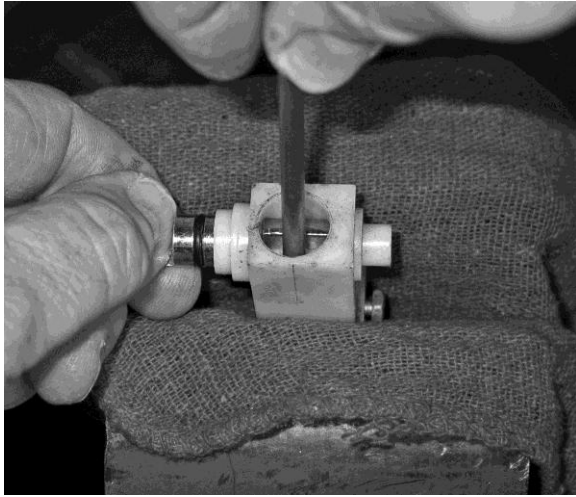

Figure 1
10. Clamp overtravel control (24) in vise with bore positioned at the top (figure 1). Position a small wrench on the smaller flat of the overtravel control shaft (27) where it protrudes from the overtravel control body (25) and rotate the overtravel control shaft (27) until the large flat inside the overtravel control body (25) is vertical. This will compress the overtravel piston and spring (30 and 32). Using a medium screwdriver (ex: Torx T20), force the overtravel piston (32) down just enough to allow the overtravel control shaft (27) to be moved part way out of the overtravel control body (25). Reposition the screwdriver on the overtravel piston (32) past the end of the overtravel control shaft (27) and force the piston (32) down just enough to permit the overtravel control shaft (27) to be fully removed. Release the overtravel piston (32) carefully. Remove the overtravel control body (25) from vise.
11. Remove overtravel control body seal (34) from overtravel body (25) or valve body. Remove shaft o-rings (29). Remove overtravel piston (32), overtravel lever spring (30) from body.
c. Clamp overtravel control body (25) in vise with bore positioned at the top (figure 1). Locate large flat on overtravel control shaft (27) and introduce this end of shaft into large hole in the side of the overtravel control body (25) with the large flat oriented vertically. Using a medium screwdriver (ex: Torx T20), force overtravel piston (32) into bore just far enough to allow shaft to pass above piston. Once shaft is started into the